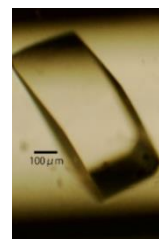

Fig. 2
4. Change the reservoir solution from #1 to #2: 5% PEG 4000, 0.7 M NaCl, 50 mM acetate buffer pH 4.5. The crystal is growing larger (Fig. 2).